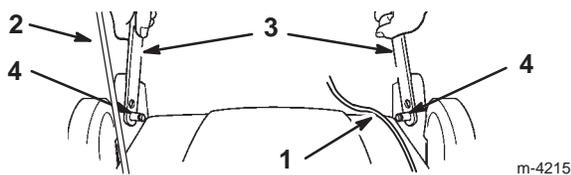

Figure 2
5. Lay the upper handle section on the ground behind the lawn mower with the handle label facing up and the control cables routed between the handle mounting brackets (Fig. 2).
1. Squeeze the lower handle section ends together, position the holes in the handles over the pins on the handle brackets, and release the handle (Fig. 2).